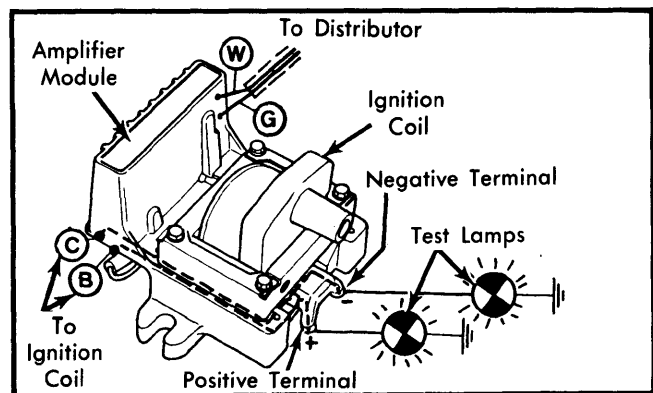

Fig. 6 Test Lamp Hookup for Electrical Circuit Test
1) Connect a 12-volt test lamp between the coil positive terminal and ground. Turn ignition switch "ON". Test lamp should light. If not, check feed wire to coil. See Fig. 6.